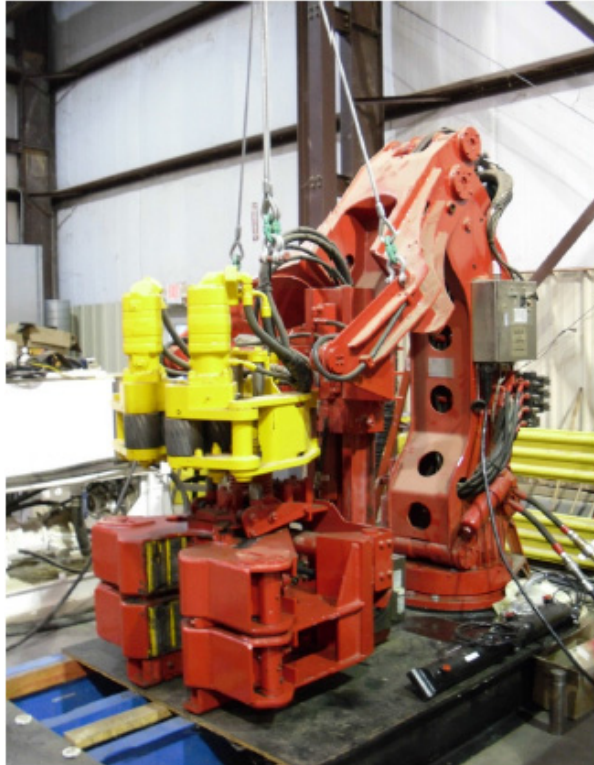

Figure 10: Tongs Lowered to the Floor
- g. Continue to lower the tong assembly until the tongs rest on the floor (see Figure 10).